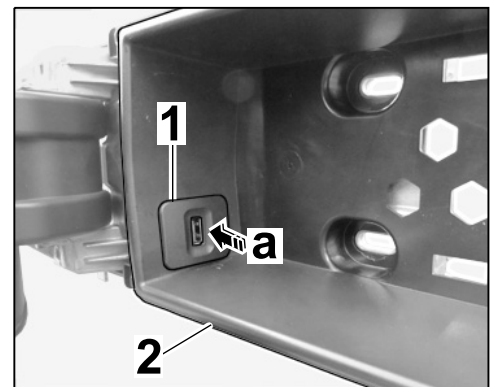

Figure 11
- 3.3 Clip USB interface ⇒ *Figure 11-1* into center console ⇒ *Figure 11-2* (⇒ *Figure 11-a*).